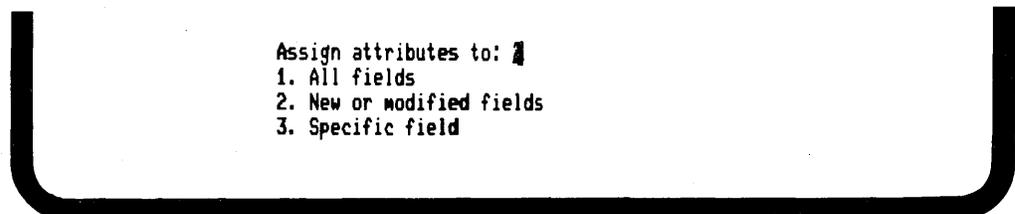

Figure 3-5: First Assign Phase Question
3.3.1.3 Assigning Field Attributes: The Assign Phase — You are now ready to assign other attributes to the field in **MENU**. To enter the Assign phase, type **ASSIGN** and then press **RETURN**. The Form Editor responds by displaying a question below the menu (see Figure 3-5).